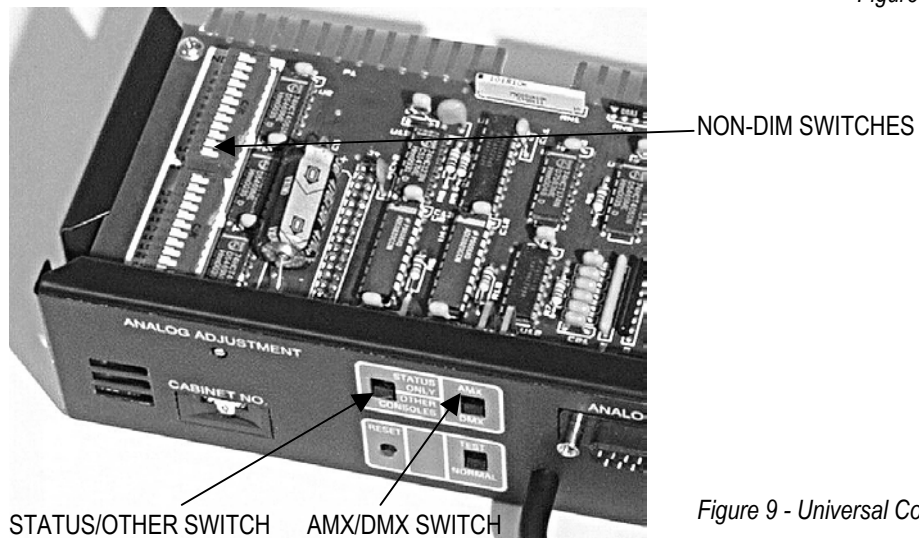

Figure 9 - Universal Control Module
- If the control module is a Universal type, verify that the AMX/DMX switch is in the DMX position and that the Status/Other switch is in DMX position and that the Status/Other switch is in the “Other” position. See Figure 9.
- Switch Non-Dim switches to select which dimmers are to operate in the Non-Dim mode. The Non-Dim mode switches are located on the left-hand side of the top printed-circuit board on the Universal Control Module. See Figure 9, page 7. In the off (left) position, the channel will function as a dimmer. In the on (right) position, the dimmer will function as a non-dim (fully off or fully on). Only the first twelve switches are used.